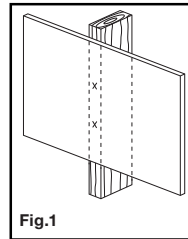

Fig.1
3. While another person holds the wall plate in position, mark two locations (top and bottom) for securing the mount to the wall. (see Fig.1).